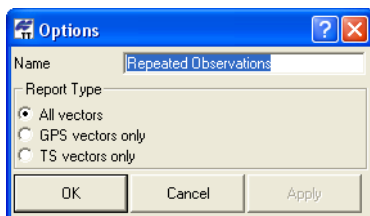

Figure 7-18. IEdit Name and Select Desired Parameters for Report
- Repeated Observations – edit the name and select the report type for vectors, then click **OK** (Figure 7-18).